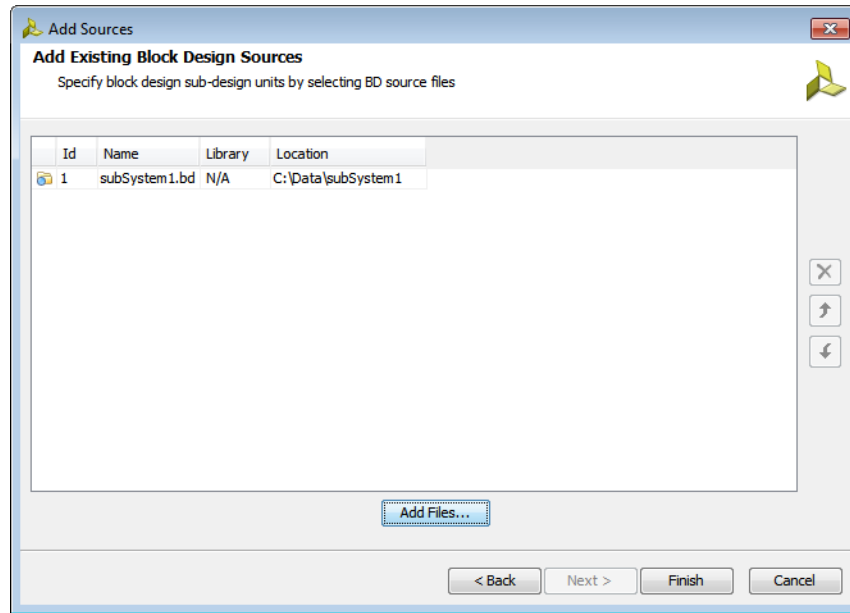

Figure 3-15: Add Sources Wizard—Add Existing Block Designs
3. In the Add Existing Block Design Sources page (Figure 3-15), set the following options, and click **Finish**.
- **Add Files:** Opens a file browser in which you can select IP integrator block designs (BD) files to add to the design.